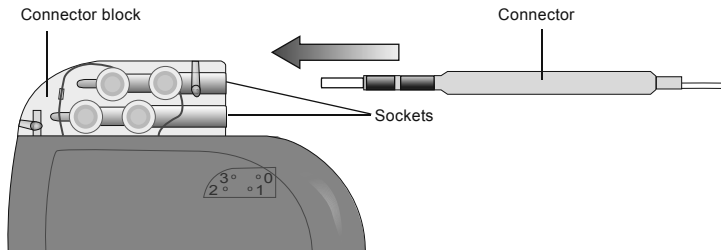

Figure 4. Insert connector pins into neurostimulator socket.
- b. Insert the connector pins into the neurostimulator sockets (Figure 4).